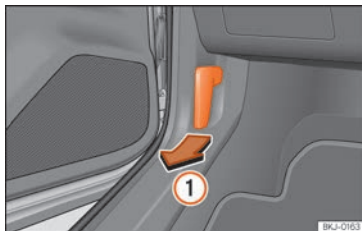

Fig. 190 Release lever in the driver's footwell area.
- Open the door and pull the lever under the dashboard »» Fig. 190 ①.